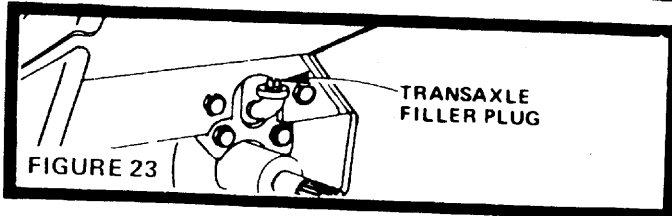

FIGURE 23
- Remove Filler Plug (Fig. 23) from Transaxle. Oil Level should be even with Filler Plug threads. Add S.A.E. 30 Motor Oil if necessary.